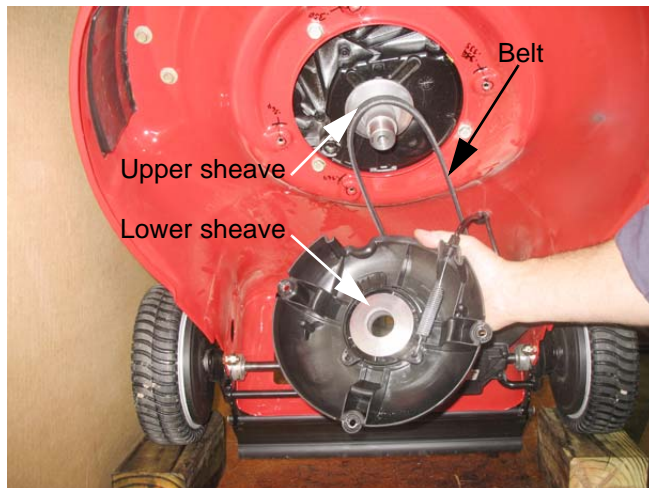

Figure 4.6
- 7b. Pull the crankshaft pulley cover and the lower sheave of the crankshaft pulley down, freeing the belt from the crankshaft pulley. See Figure 4.6.